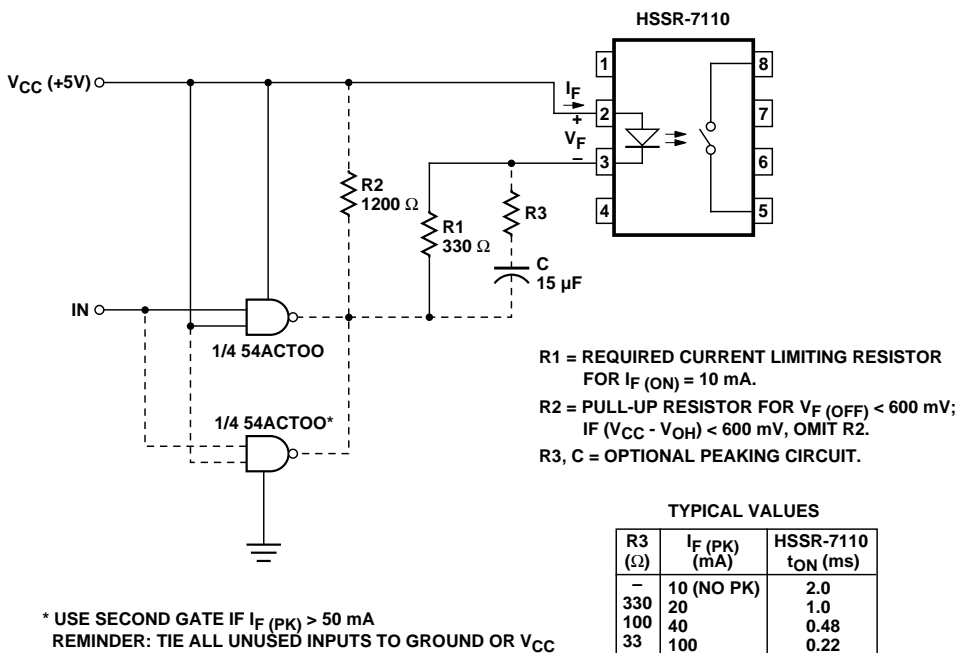

Figure 1. Recommended Input Circuit.
- For a faster turn-on time, the optional peaking circuit shown in Figure 1 may be implemented.
*Input Circuit:* The drive circuit of the electro-mechanical relay coil needs to be modified so that the average forward current driving the LED of the HSSR-7110 does not exceed 20 mA. A nominal forward drive current of 10 mA is recommended. A recommended drive circuit with 5 volt VCC and CMOS logic gates is shown in Figure 1. If higher VCC voltages are used, adjust the current limiting resistor to a nominal LED forward current of 10 mA. One important consideration to note is that when the LED is turned off, no more than 0.6 volt forward bias should be applied across the LED. Even a few microamps of current may be sufficient to turn on the HSSR-7110, although it may take a considerable time. The drive circuit should maintain at least 5 mA of LED current during the ON condition. If the LED forward current is less than the 5 mA level, it will cause the HSSR-7110 to turn on with a longer delay. In addition, the power dissipation in the output power MOSFETs increases, which, in turn, may violate the power dissipation guidelines and affect the